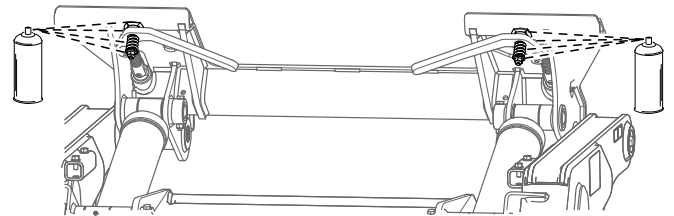

Figure 45
7. Lubricate the quick-attach linkages using spray lubricant (Figure 45).